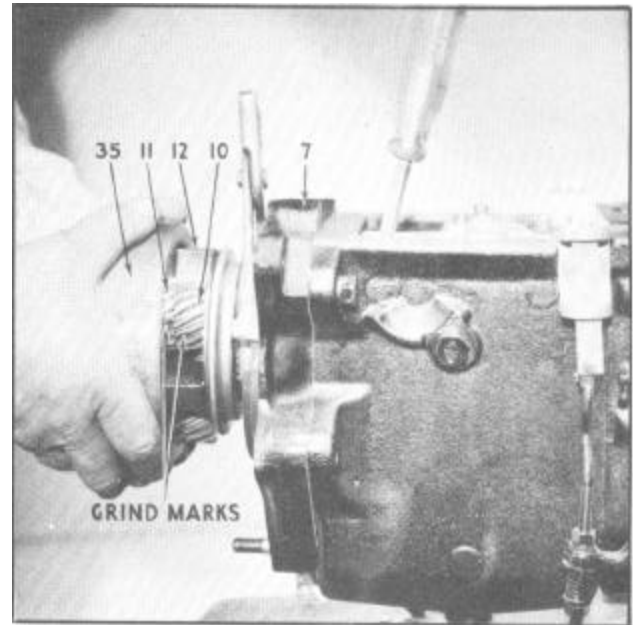

Figure 41--Installing Pinion Cage Assembly
12. Install pinion cage assembly (12), Figure 41, and clutch pawl and core assembly (35) on stationary gear, first meshing wide pinions (10) with stationary gear.